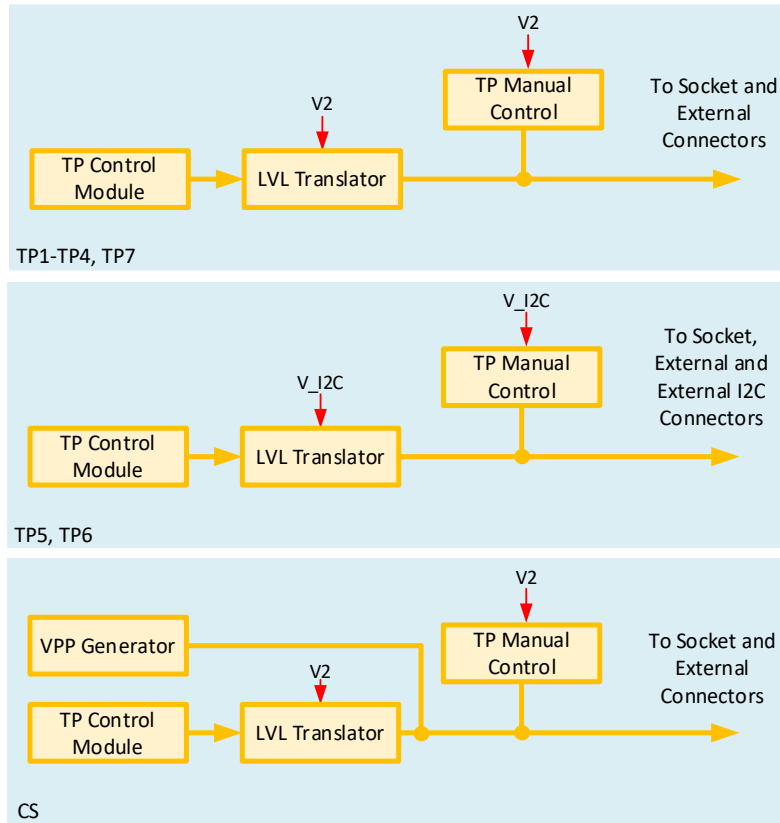

Figure 5. TP Control Structure
Figure 5 describes the TP control structure and shows the voltage reference to any TP. All TPs, except TP5 and TP6, belong to the V2 linear power channel. TP5 and TP6 belong to the V\_I2C linear channel and can be used both as I2C TPs or state control TPs. The Chip Select (CS) TP belongs to V2 and has a VPP option available that can generate a higher voltage than VDD in programming procedures.